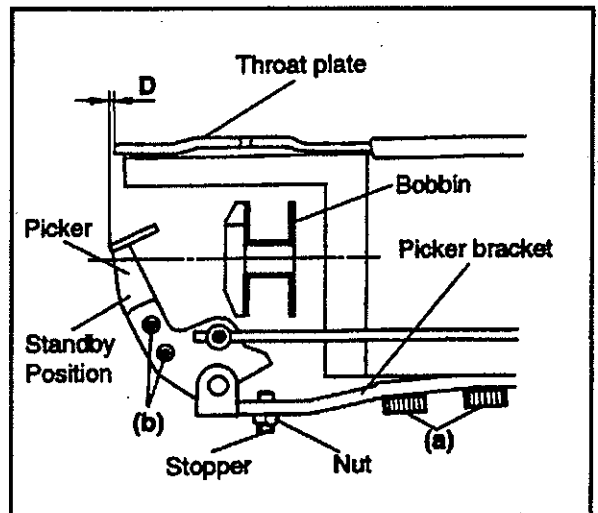

FIG.3
- (1) If clearance A between the picker tip and the bobbin differs from that specified, loosen the nut to adjust the stopper position. Tighten the nut after adjustment (Fig.3).
- (2) If clearance B between the picker tip center and the rotary hook center differs from that specified, loosen two retaining screws (a) to shift the picker bracket. Tighten screws (a) after adjustment (Fig.3).
- (3) If the picker height differs from that specified, loosen two retaining screws (b) to adjust the height. Tighten screws (b) after adjustment (Fig.3).